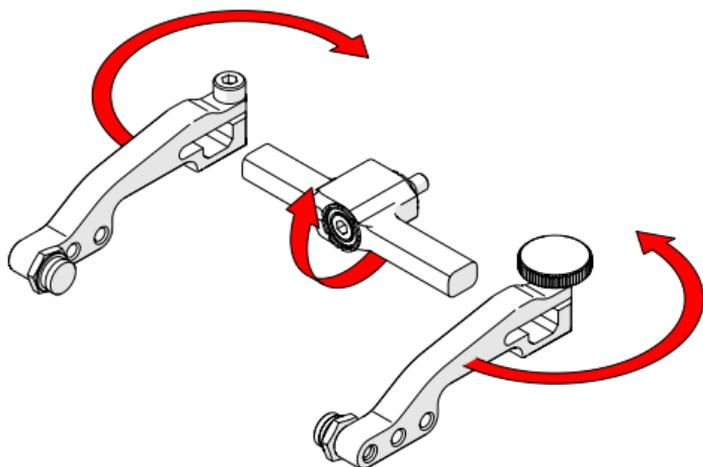

Fig. 107 - Flip yoke and reverse arms
3. Flip the yoke 180° and reverse the probe holder arms (Fig. 107).